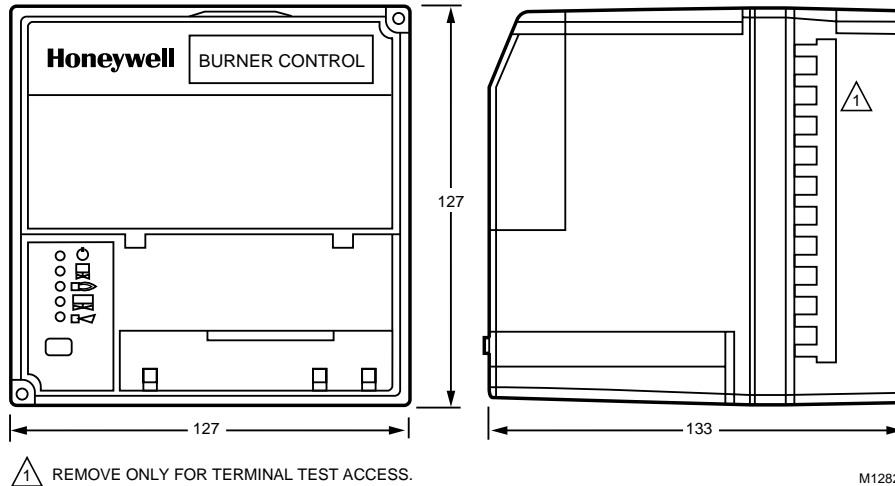

Fig. 1. Mounting dimensions of relay module and wiring subbase in millimeters only.
- Five sequence information light emitting diodes (LED)—with symbols for Power, Pilot, Flame, Main and Alarm (see Fig. 1).
Dimensions: See Fig. 1.